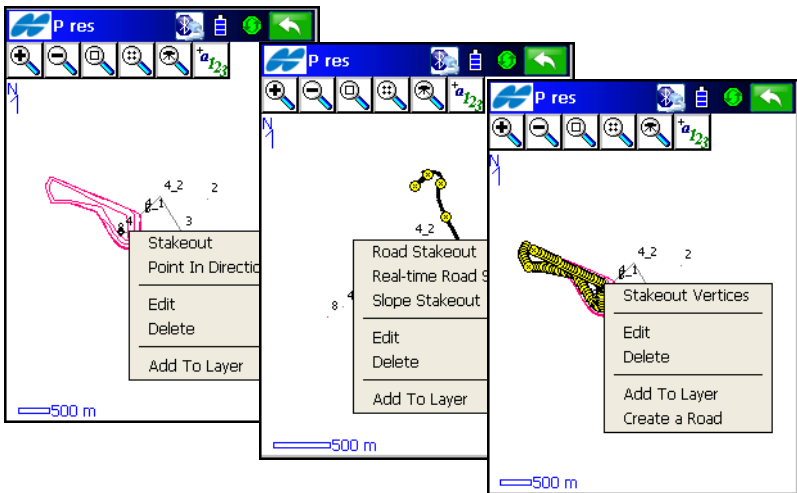

Figure 15-5. Map Options
- Press **Alt** on the controller's keyboard and tap the object, or press and hold the stylus on the selected object to display map options. A pop-up menu displays the options available for the selected object (Figure 15-5 on page 15-5):